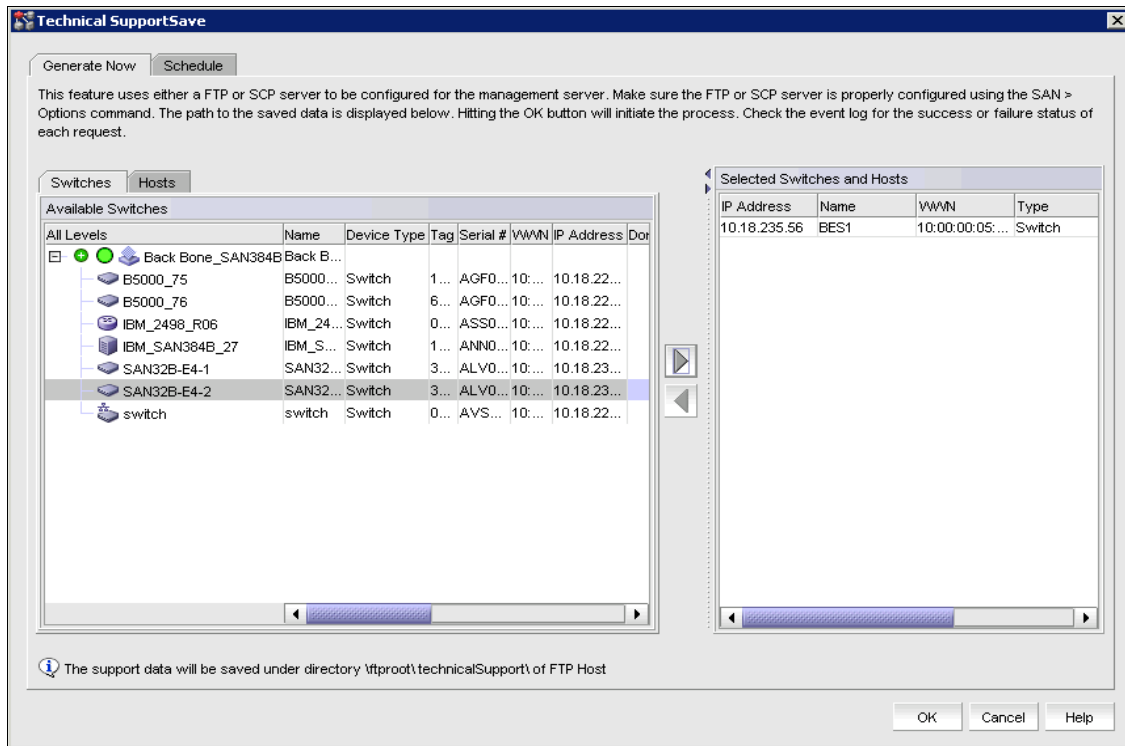

Figure 17-23 Select switch
2. Select a switch, (as shown in Figure 17-23). You can also choose whether to collect data from more than one switch.